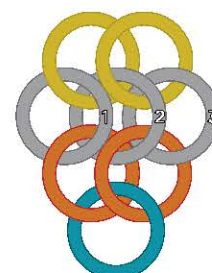

FIG. 4
6. Thread 1 open jump ring straight through jump rings 2 and 3 of the previous row using a TE connection and then close it (FIG. 4).